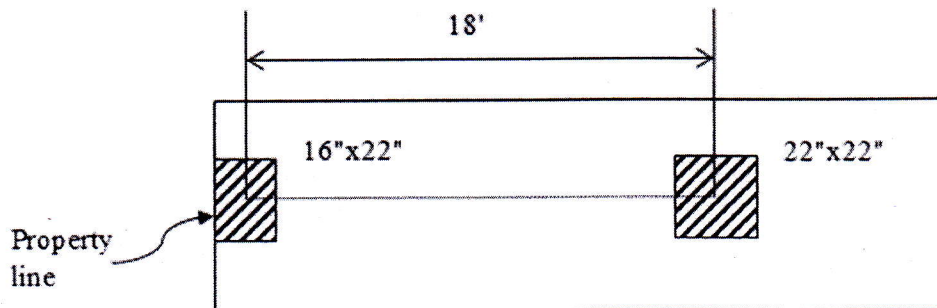

Fig: 5
- [5] Use approximate vertical load analysis to draw AFD, SFD and BMD of the frame shown in Fig. 5.
8. An exterior 22" x 16" column with DL=150 kips, LL=125 kips, and an interior 22" x 22" column with DL=200 kips, L = 170 kips are to be supported on a combined rectangular footing as shown in **Fig 5** whose outer end cannot protrude beyond the outer face of the exterior column. The center to center distance of columns is 18 ft and allowable bearing pressure of the soil is 6 ksf. The bottom of the footing is 6 ft below grade. Design the footing, for $f'c=3$ ksi, $f_y=60$ ksi.